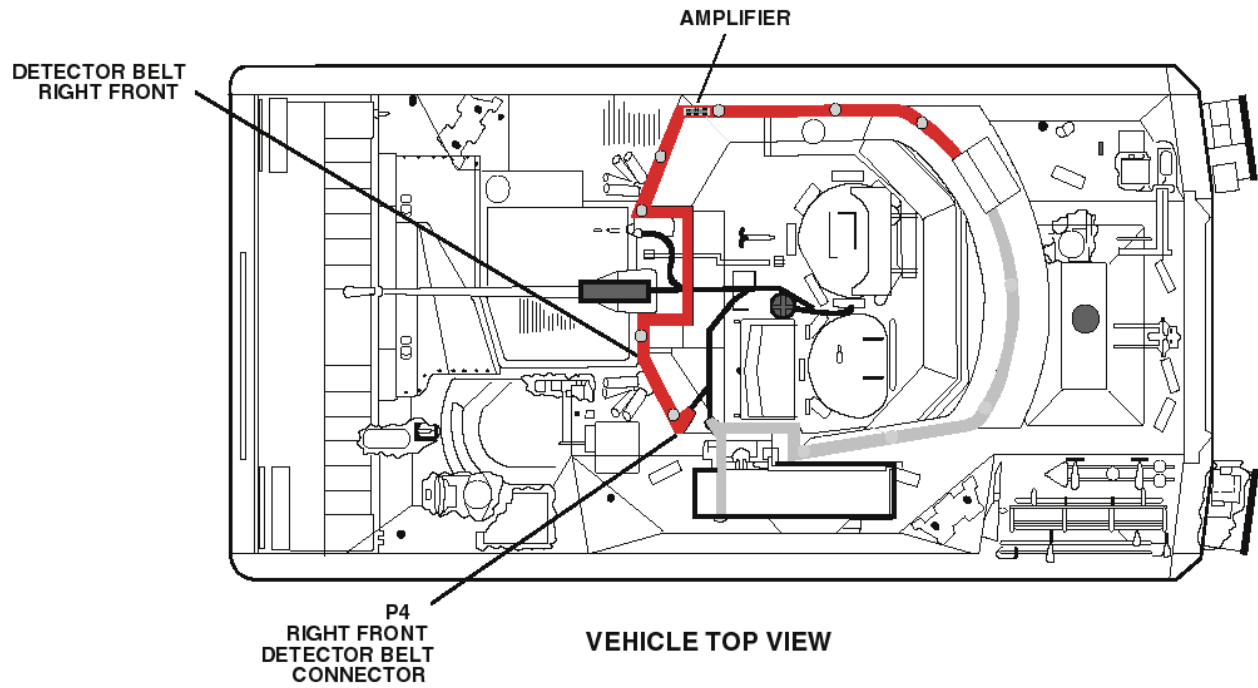

Figure 2-21. M2/M3 Right Front Detector Belt Location.
- e. Working in short sections, press the detector belt labeled **Right/Front** along the fastener tape applied for that belt. Ensure that there are no buckles or creases in the belt. The connector for the System Cable should be positioned at the left front corner of the turret. (See Figure 2-21.)